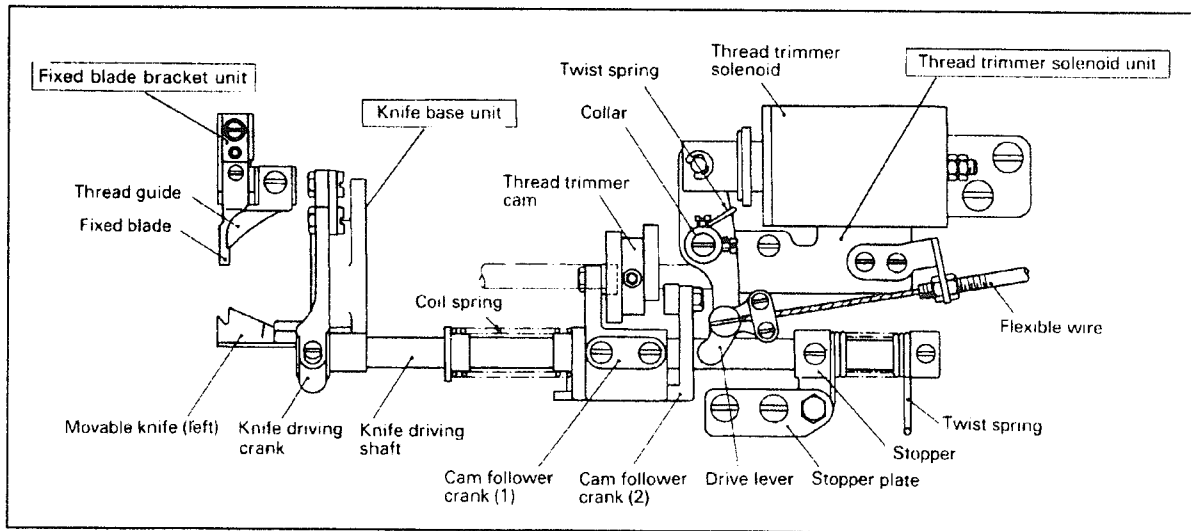

Fig.34
1) The thread trimmer mechanism illustrated as Fig.34.